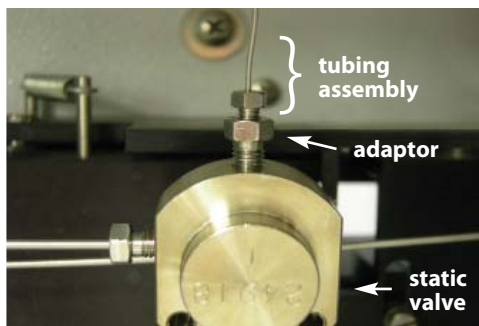

Figure 1
1. Remove the old tubing assembly and adaptor from the static or pressure relief valve. The adaptor is not needed when using Restek's tubing assembly for ASE® 200 Systems (Figure 1).